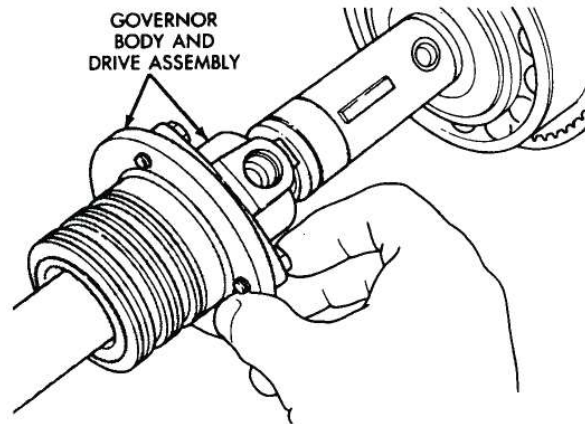

Fig. 18 Governor Body And Drive Assembly Removal
- (3) Remove governor body and drive assembly (Fig. 18). Set assembly aside for disassembly, inspection, and overhaul. Refer to Governor Overhaul procedures.